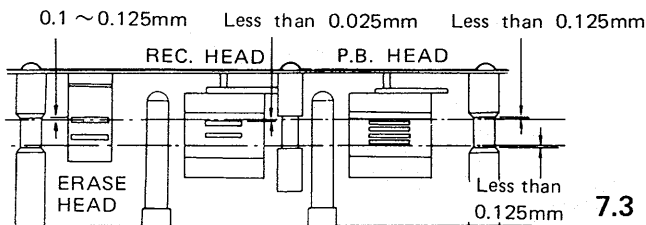

Fig. 24
7.1 COURSE ADJUSTMENTS (Figs. 24, 25)
Adjust screws to proper relation dimension between tape and heads as shown in Fig. 24.